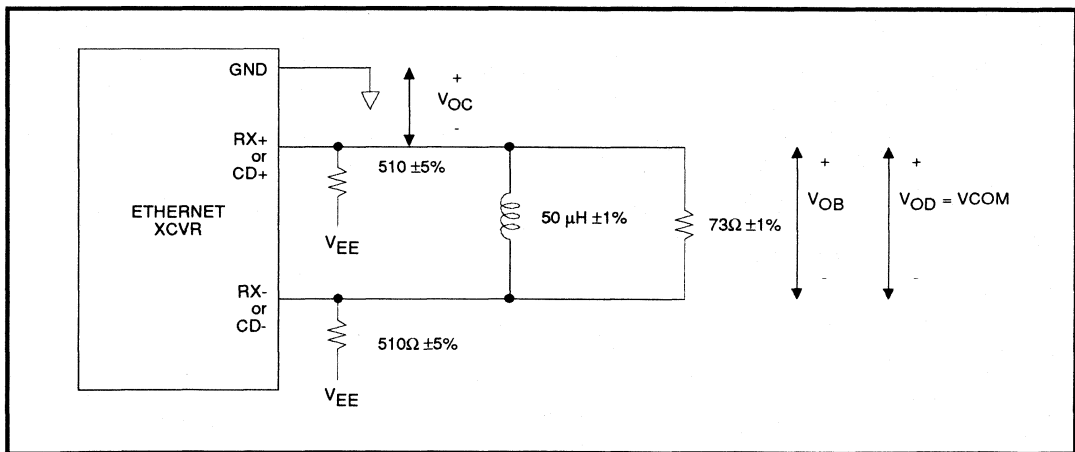

FIGURE 2: Test Load for CD_{\pm} or RX_{\pm}
8. Test load as shown in Figure 2.